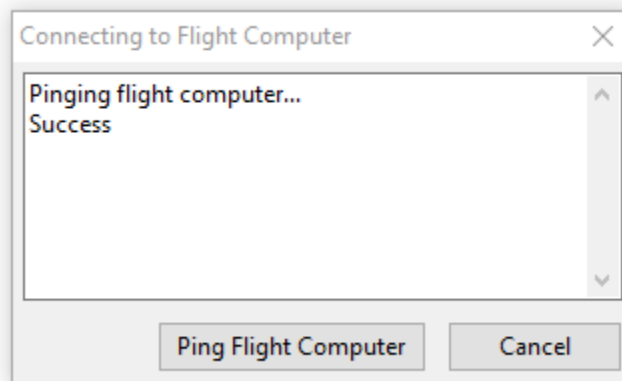

Fig. 3.3: The Ground Station Connection Dialog
3. The connection dialog appears with the message “Pinging flight computer.” When the connection is established and the flight computer has transmitted it’s system status to the ground station, the dialog will display “Success” and then disappear. See Fig. 3.3.